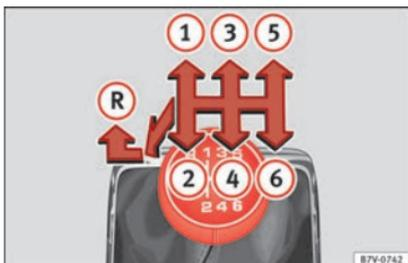

Fig. 48 Gear shift pattern of a 6-speed manual gearbox
The position of the gears is indicated on the gearbox lever » **Fig. 48**.
- With the gearbox lever in neutral, push it upwards, move it to the left as far as it will go and then forwards to select reverse » **Fig. 48** (R).